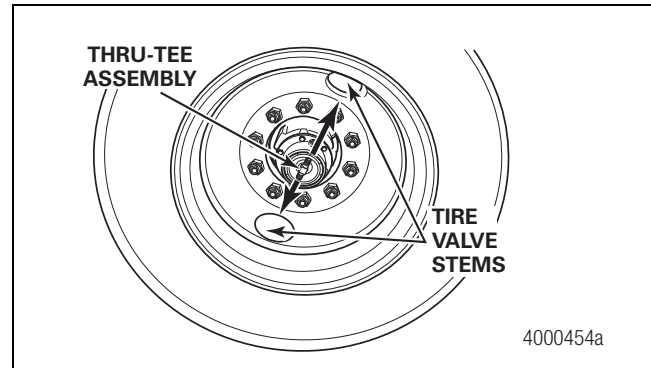

Figure 2.49
- The air fittings must point TOWARD the tire valve stems. Check that the tire valve stems are 180 degrees opposite each other. The valve stems must be in this position to install the tire inflation system. Figure 2.49. If necessary, bolt-on hubcaps or wheels may be “clocked” to align the thru-tee with the tire valve stems. Screw-on hubcaps may be rotated for this alignment, as long as the hubcap tightening specification is within the hubcap manufacturer’s recommended guidelines.